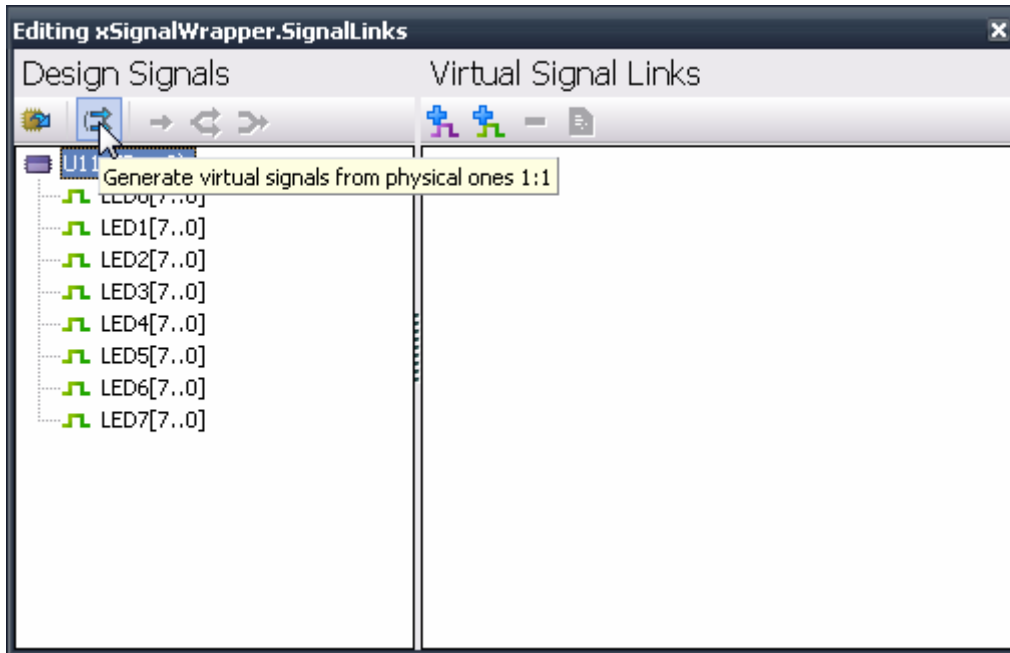
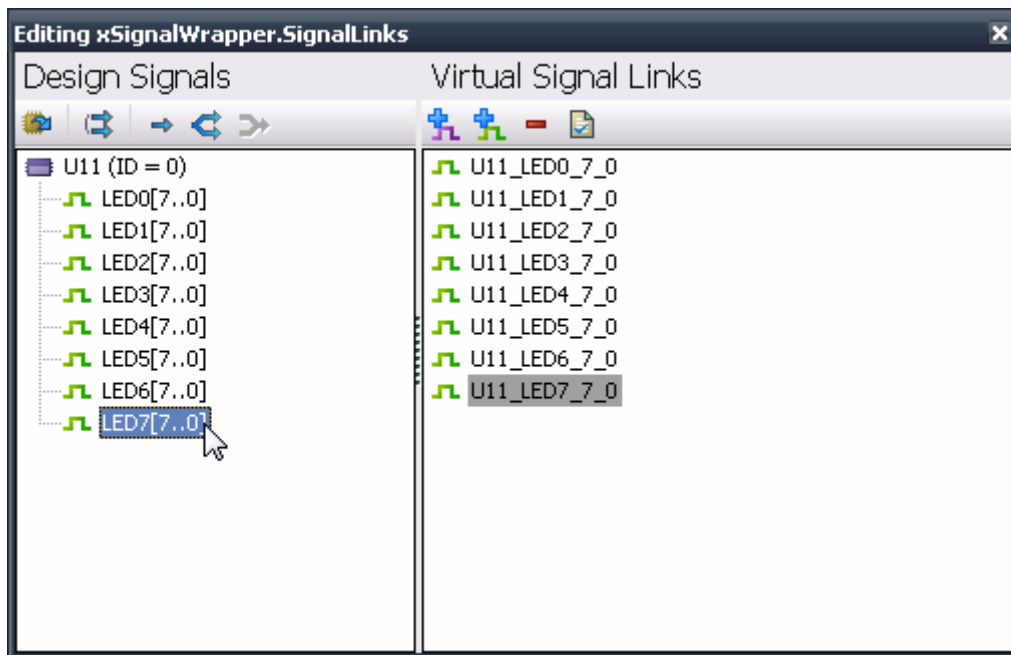

Figure 17. Existing design signals are connected to virtual signals.
Figure 18. Design signals have been linked to virtual signals.
58. Double click the  icon on the form to launch the **Editing xSignals.SignalLinks** dialog seen in Figure 17.
59. This dialog is used to connect the signals in your design to internal (virtual) signals used in your code. Click once on the  button to automatically generate virtual signals for each of the design signals, as shown in Figure 17. As you click on a design signal name in the dialog, its corresponding virtual signal will be highlighted, indicating that they are connected, as shown in Figure 18.